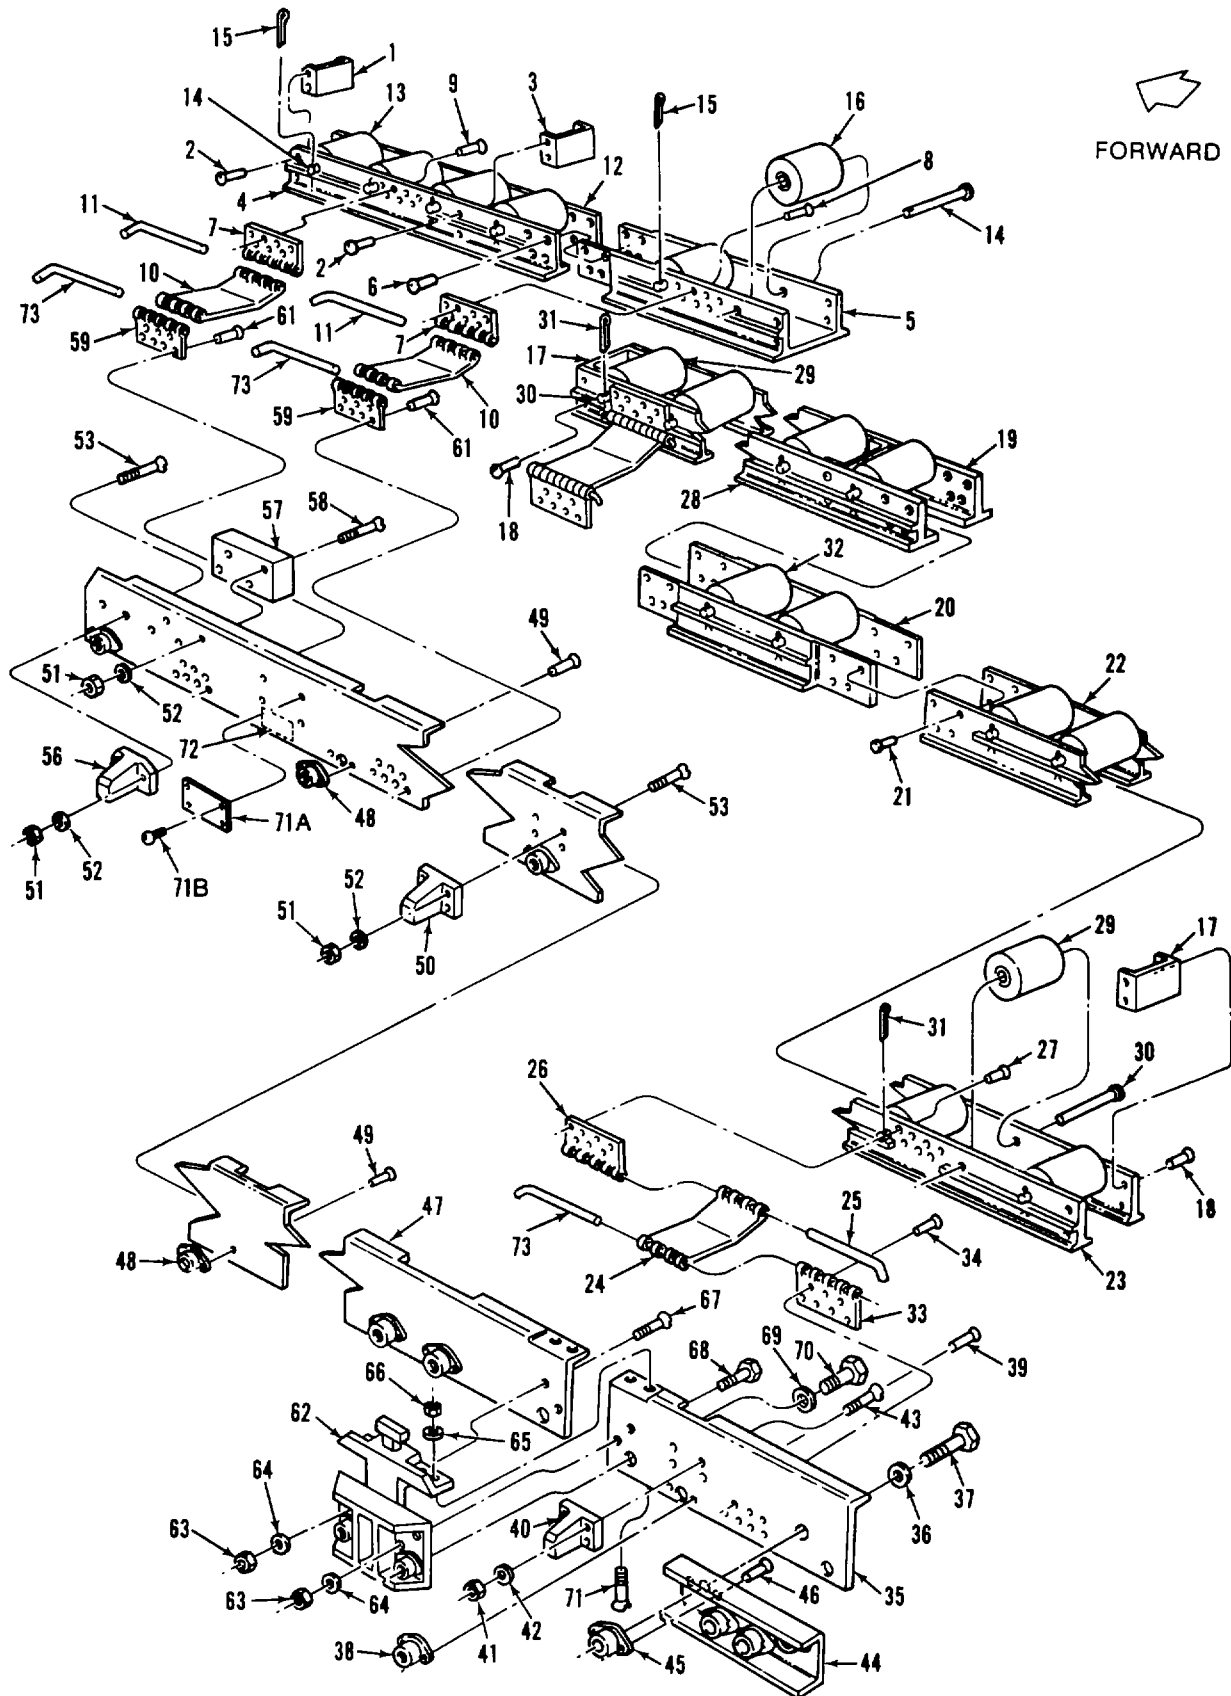

Figure 3-3. Outboard Rail/Roller Assembly, Stations 158.500 to 274.000
| -1 | 18049 J 101 | 81868. | OUTBOARD RAIL/ROLLER ASSEMBLY..... (LH), Stations 158.500 to 274.000 (See figure 3-3 for breakdown.) | | | | | | | 1 | |
| -2 | 18049 J 102 | 81868. | OUTBOARD RAIL/ROLLER ASSEMBLY..... (RH), Stations 158.500 to 274.000 (See figure 3-3 for breakdown.) | | | | | | | 1 | |